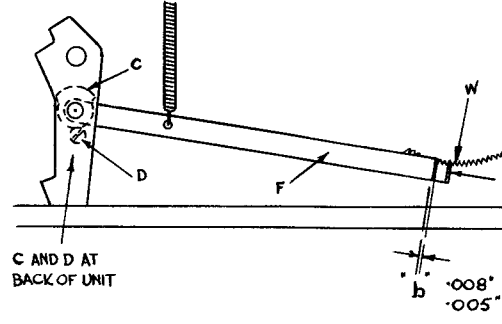

FIG 32
52. FEED THE CARRIAGE A FEW SPACES TO THE LEFT. THEN ADJUST ECCENTRIC C SO THAT, WITH THE RETENTION PAWL R ENGAGED WITH RATCHET W, THERE SHOULD BE .005"-.008" BETWEEN THE FEED PAWL & THE NEXT TOOTH (DIMENSION "b" FIG 32). LOCK BY SCREW D (BACK OF UNIT)